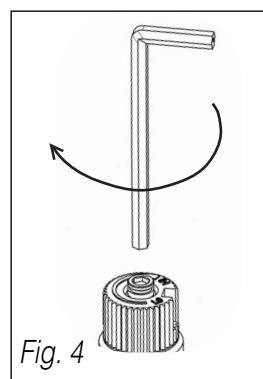

Fig. 4
- Using the Allen wrench as shown in fig. 4, rotate the screw clockwise until a torque of 9 in-lbs.